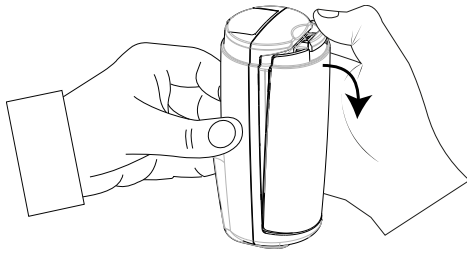

Figure 14: Opening the battery cover
2. Press on the snap located at the top of the battery cover with your thumb to open the battery cover. See Figure 14.